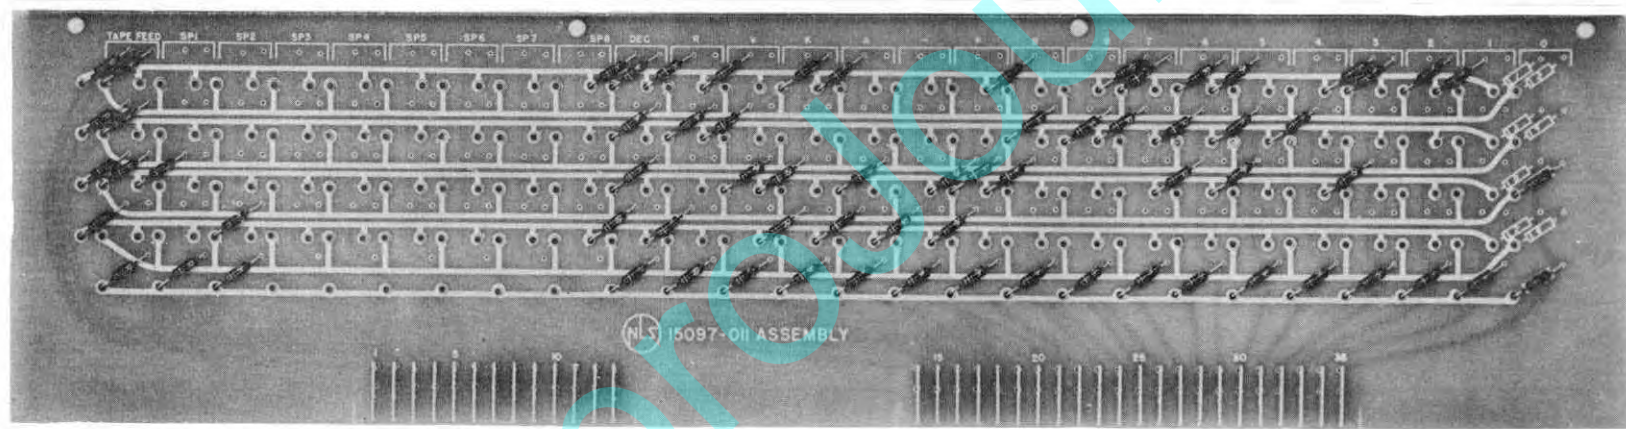

FIGURE 5
For symbols which are not listed on the board, use the special code columns designated SP1 through SP8. In the example of Figure 4, SP1 is used for space, and SP2 is used for carriage return. Be sure to note which SP codes are assigned, because this information is again needed for wiring of the Program Connector (see below). Figure 5 shows the diode arrangement for the coding of Figure 4.
1. Install diodes on the code matrix board as shown in Figure 5.
3. Pins C, M, W, f, p, x, AF, and AR control the special codes SP1 through SP8 respectively. In the required format or "word", the last character is Carriage Return, and special code SP2 has been assigned for this function (see Figure 4 and Figure 5). Therefore, jumper pin CS and BA (the last pulses) to pin M (SP2 code).